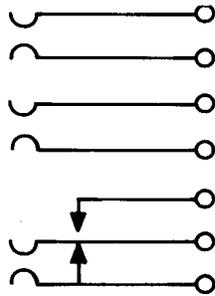

Fig. 8—463A Jack
**2.08 463A:** This multicontact jack (Fig. 8) consists of a metal bracket on which there are mounted three pairs of contact springs, one pair of which is equipped with a set of break-make contacts. This jack is used with the 240B plug which operates the set of break-make contacts when inserted in the jack. This jack is also equipped with a numbered plate holder. The terminals are arranged for mechanically wrapped connections. This jack is to be mounted on mounting plates used in step-by-step equipment.